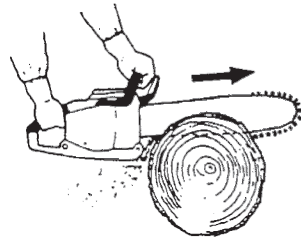

Fig. 20
- When cutting with the bottom part of the chain the reactive force will pull the saw away from you towards the wood you are cutting. The saw will control the feeding speed and sawdust will be directed towards you. (Fig. 20)